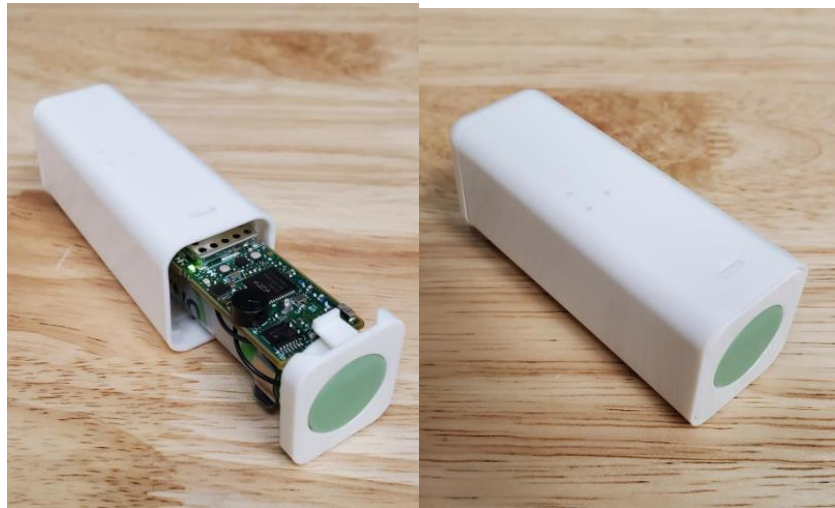

Figure 2-7: Replacing the PCBA and End-Cap
4. Replace the PCBA and end-cap in the same orientation as before and push firmly to shut as shown in Figure 2-7.